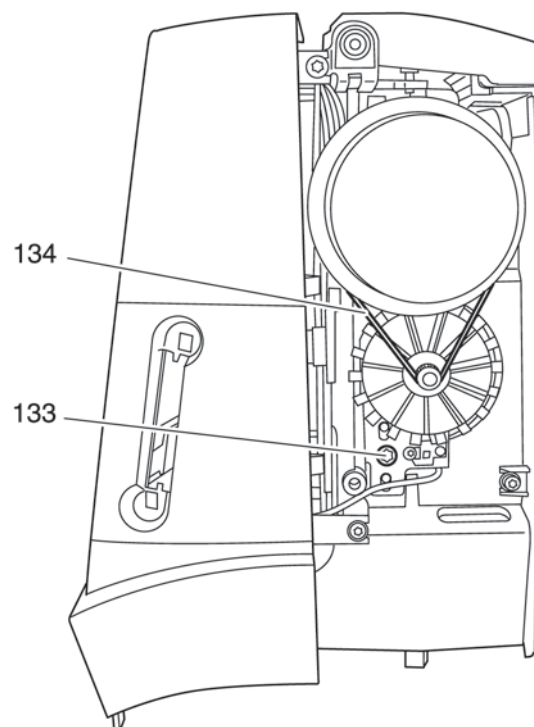

Fig. 38b
- Remove the toothed belt 134 of the motor (fig. 38b).
- Slightly tighten screw 133 of the motor bracket (fig. 38b).